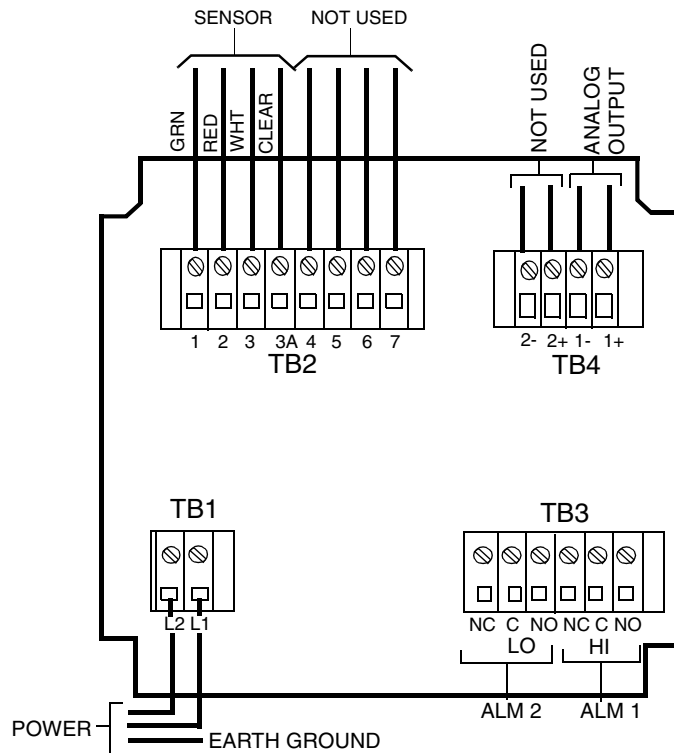

Figure 11. Metal Rear Panel Wiring
2. Connect ALM 1 and ALM 2 alarm wires to terminal block TB3 as shown in Figure 11. Also see “Wiring of Alarms” on page 19.
4. Connect sensor wires to analyzer terminal block TB2 as shown in Figure 11.
5. Connect power wires to terminal block TB1 as shown in Figure 11. The earth (ground) connection from the power cord should be connected to the stud located in the bottom of the case. The stud grounds the instrument and is mandatory for safe operation.